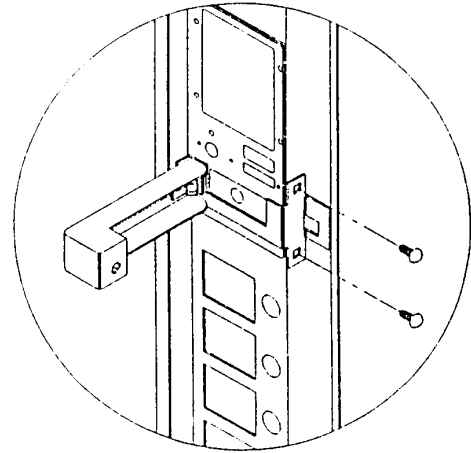

FIGURE 11A
6. Open the lock cover as shown in figure 11A above.
7. Place lock cover in position so the two (2) threaded studs, on the left of the cover, insert in the holes in the vertical bulkhead.
8. Install two (2) keps nuts to hold lock cover in position. Do not tighten at this time.